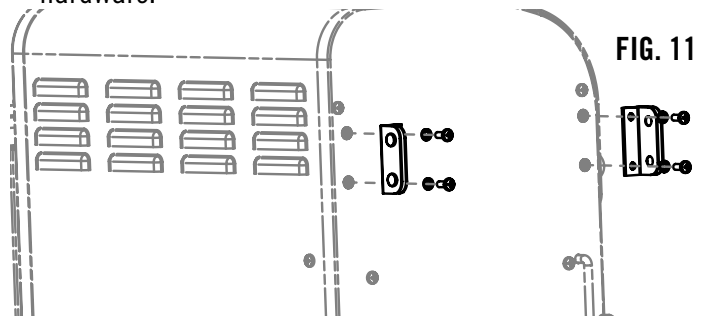

FIG. 11
1. Install the 2 shelf brackets using M6 x 12MM Button Head Screws and 6MM lock washers as shown in Fig.11. Check width of brackets with shelf before tightening hardware.